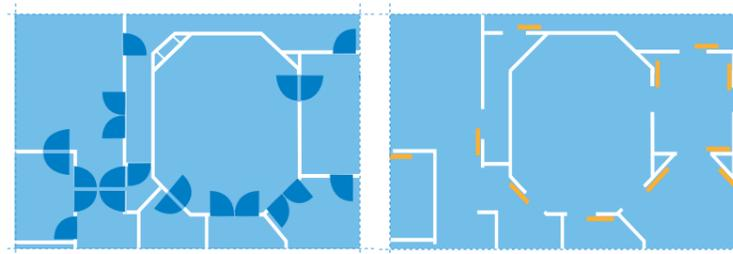

Figure 3. Sliding vs swing doors can save up to 15% of space based on opening area that swing door requires
3. Available space	<ul style="list-style-type: none"> How critical is it to save space in each concrete case (see Figure 3)? What space is required for particular door type installation?
- Certain door types can save more space than others. For example, sliding doors are up to 15% more space efficient than standard swing doors, which require 1.5–2 m² of floor space for opening (see Figure 3).